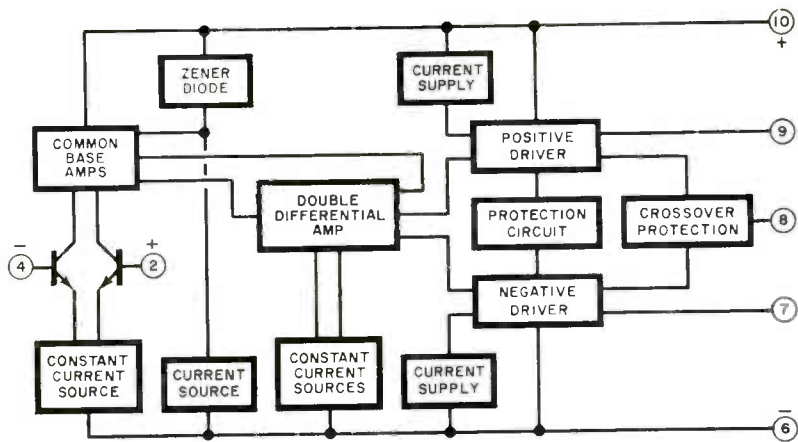

Fig. 2. There are 31 transistors and 26 resistors in 540K IC, making up the circuit shown here. Note how unique protection circuit provides maximum safety.
Fig. 2. Actual size foil pattern (right) and component installation (above). Note that miniature transformers must be used on this small PC board. It has been laid out so that it just fits in a 6" x 3" x 2" plastic utility box.
**Construction.** Layout of the bird is not critical and any method of construction may be used. If you want to use a printed circuit board, the foil pattern and layout in Fig. 2 can be used. During assembly, be sure to observe the polarities of capacitors and semiconductors and do not overheat the components when soldering.
tronic portion of the alarm is shown in Fig. 1. Assemble the circuit using the foil pattern and layout guide shown in Fig. 2. Silicon controlled rectifier SCR2 is mounted on the metal chassis and connected to the PC board terminals through three lengths of insulated wire. Be sure to get the polarities on the electrolytics and semiconductors correct. Use a low-power soldering iron and fine solder. Note that
Fig. 2. The actual size foil pattern (right) and component installation (above). Note that SCR2 is mounted on the chassis and connected to its terminals via lengths of insulated wire. It should also be pointed out that both Q1 and Q2 are Darlington transistors for high input impedance.